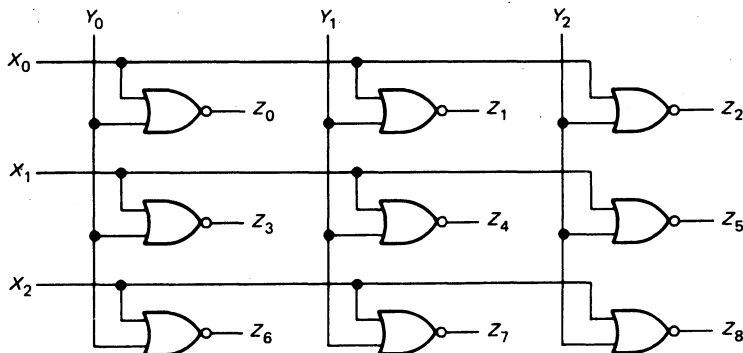

Fig. 3-26 NOR-gate crossbar switch.
- 3-3. Figure 3-26 shows a NOR-gate crossbar switch. If all X and Y inputs are high, which of the Z outputs is high? If all inputs are high except X_1 and Y_2 , which Z output is high? If X_2 and Y_0 are low and all other inputs are high, which Z output is high?
- 3-4. In Fig. 3-26, you want Z_7 to be 1 and all other Z outputs to be 0. What values must the X and Y inputs have?
3-17. Suppose the NOR gates of Fig. 3-26 are replaced by NAND gates. Then you've got a NAND-gate crossbar switch.